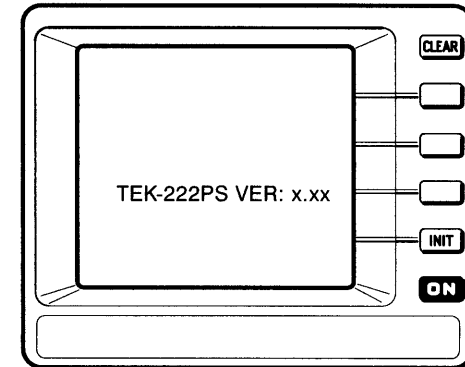

Figure 3-16: The Firmware Version
- Step 3:** Press the menu button next to **IDENT**. A message appears in the middle of the display, identifying the instrument, as shown in Figure 3-16. The version number you see may differ.